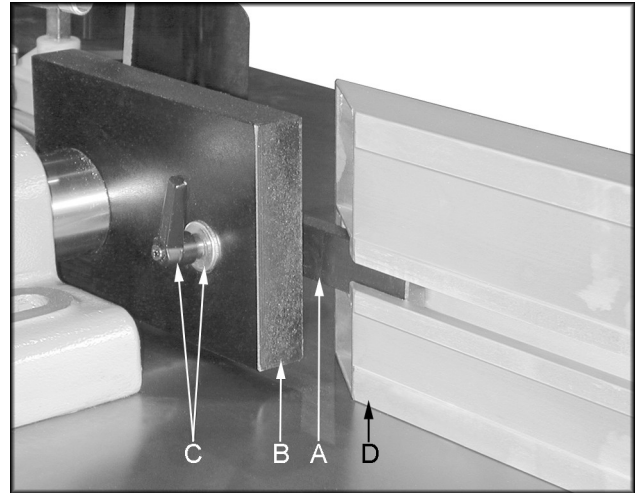

Figure 4
4. Fasten bar (A, Figure 4) to the front of the fence support (B, Figure 4) using one locking handle and washer (C, Figure 4).
5. Slide aluminum fence (D, Figure 4) onto the bar.